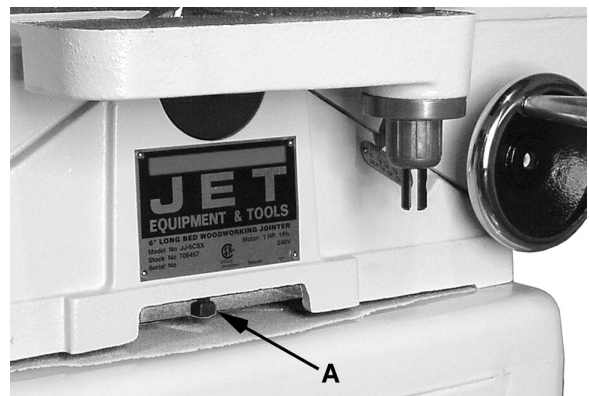

Figure 10-10
6. Using an 8mm hex wrench, loosen two hex cap screws underneath *fence base casting* (E) that secure the casting to the *table* (F). Remove the *fence base casting* and set aside.
7. Remove four *screws and washers* (A) securing the *belt guard* (B). Remove the *belt guard*.
8. Remove the *V-belt* (C) from the *cutterhead pulley* (D). If necessary, loosen the *motor mounting screws* with a 12mm wrench to provide slack on the V-belt.
9. Using a 3mm hex wrench, loosen two set screws that secure the *cutterhead pulley* (D) to the *cutterhead shaft*. Set the pulley and shaft key aside.
10. Using a 14mm wrench, remove two *screws* (A, Fig. 10-10) and *lock washers* that secure the *cutterhead bearing housings* to the *base*.